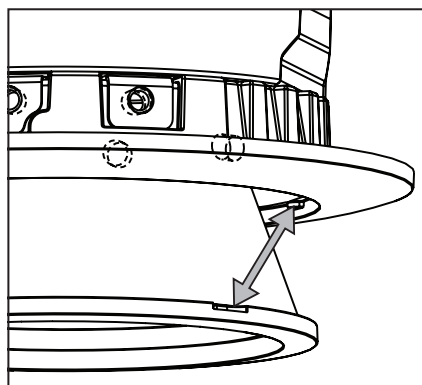

Figure 18
Step 5. Press the baffle or reflector back into the fixture. Note that the baffle has depressions in it that must align with the tabs on the trim ring (Fig. 18).